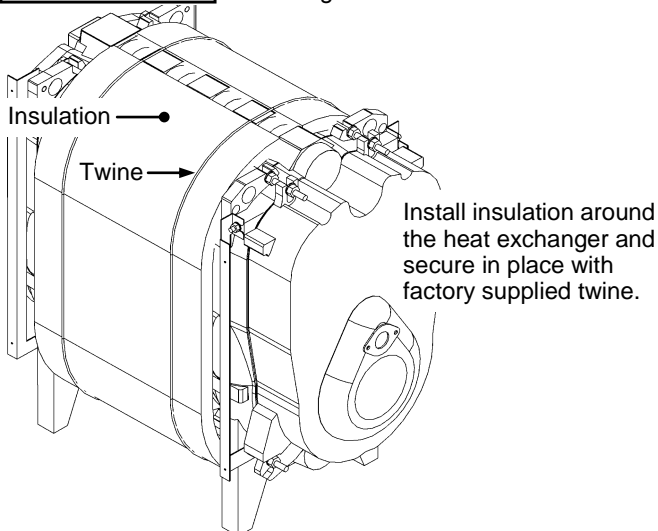

Figure 4-8 Attach Side Panels To Brackets
7. Attach side panels to front and back brackets (Figure 4-8).